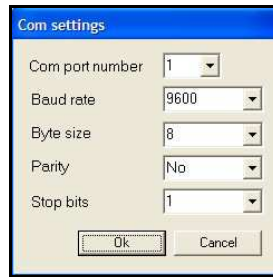

Fig. C. 5 - Com settings window
Step 4 Click the **COMSetting** button; this opens the window shown in picture Fig. C. 5, from where you can set the parameters shown according to the characteristics of the GPS being used.
Step 5 Accept the parameters set in the **COM settings** field by clicking the **OK** button, as shown Fig. C. 5.